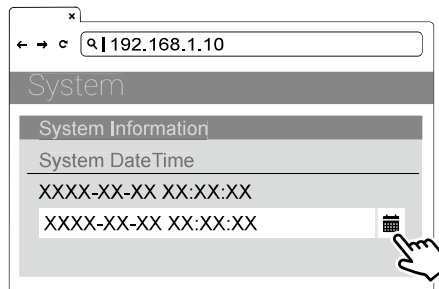

Figure 41. Select DateTime
- 4) Select the calendar button on the right to set the current date and time. See figure 41.